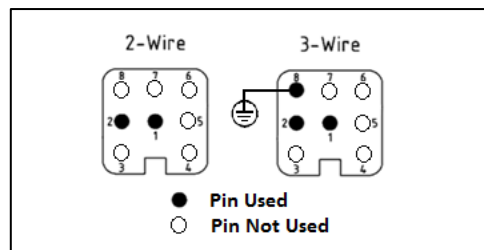

Figure 3. Wiring scheme.
- (1) KTA qualification testing was performed using 356 Nuclear Connectors (zinc die cast) fabricated with Wadi EMC cable glands and Eupen cable, which were then installed on Rosemount 3152 & 1152 Pressure Transmitters. Perfect EMC cable gland is qualified to same levels by similarity. SST connectors are qualified by similarity analysis and test. Analysis or test may be required to demonstrate performance of other cable glands or cables.
- (2) The end user must take care to assemble field side kits in accordance with approved instructions. The end user is responsible for on-site assembly of field side connectors.
- (3) Explanation of "assemble to" flag and polarity:
- code "1": Instrument side connector is factory-installed with pin 1 to positive terminal (see Figure 3).
- code "2": Instrument side connector is factory-installed with pin 2 to positive terminal (see Figure 3).
- (4) If ordering option code P4, contact Rosemount Nuclear for wiring information.